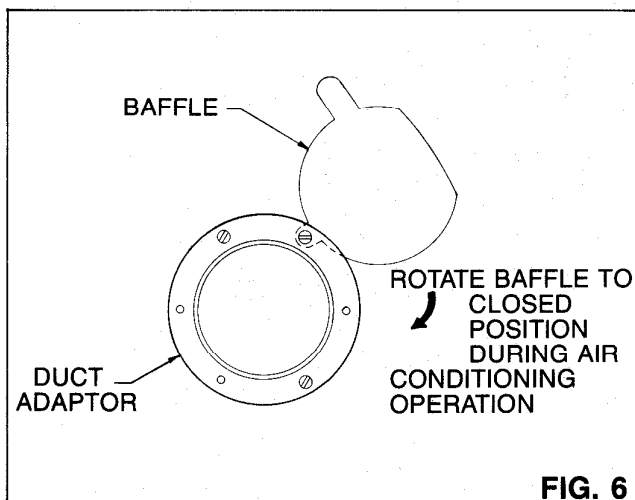

FIG. 6
baffle between the duct and the adaptor as shown in Fig. 6. The baffle should be open during the heating season and rotated to shut off the by-pass duct for air conditioner operation. Install and tighten the remaining three (3) 3/8-inch long sheet metal screws.